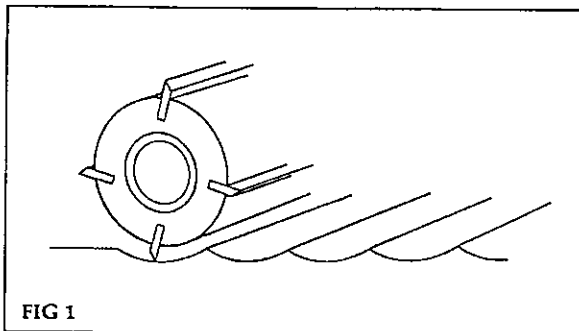

FIG 1
- Fig 1 Main view of machine
- Fig 1 Lifting the machine
- Fig 1 Machine controls - general view
- Fig 1 Vee-belt drive tensioning
- Fig 1 Bedplates fences and side guide
A series of 'ridges' (cutter marks) is created on the surface of the timber as it is moved past a rotating cutterblock (see Fig 1). The quality of surface finish is determined by the number of knife marks per 25mm (1") (the pitch of the cutter marks). The closer the pitch the better the quality of surface finish.